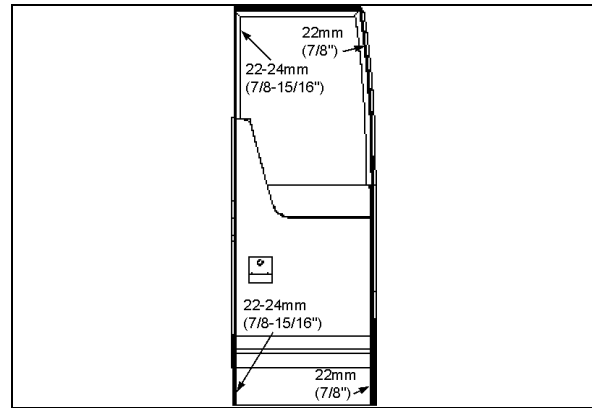

FIGURE 29: SEAL COMPRESSION ADJUSTMENT 18632
- From the outside of vehicle, insert a straight edge in the gap along the door outside perimeter. Measure the distance between the door frame and the door outside surface at the door four corners (refer to Figure 29).